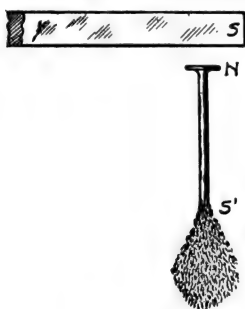

Fig. 6. Example of Magnetic Induction
Any piece of soft iron may be thus magnetized *temporarily* by holding it in contact with a permanent magnet. Indeed, it is not necessary that there be actual contact. If a nail simply be brought near to the permanent magnet it will be found to have become a magnet. This fact may be proved experimentally by holding one end of a nail near to a permanent magnet and then presenting some iron filings to the other end, as shown in Fig. 6. If the permanent magnet be removed, most of the iron filings will immediately fall from the end of the nail, thus showing that its magnetization was purely temporary and due to the presence of the permanent magnet. *Magnetism produced in this way*
*by the mere presence of adjacent magnets, without contact, is called induced magnetism.* If the induced magnetism of the nail in Fig. 6 be tested with a compass needle, it will be found that the *remote* induced pole S' is of the same kind as the inducing pole S, while the *near pole* N is of unlike kind. This is the general law of magnetic induction.